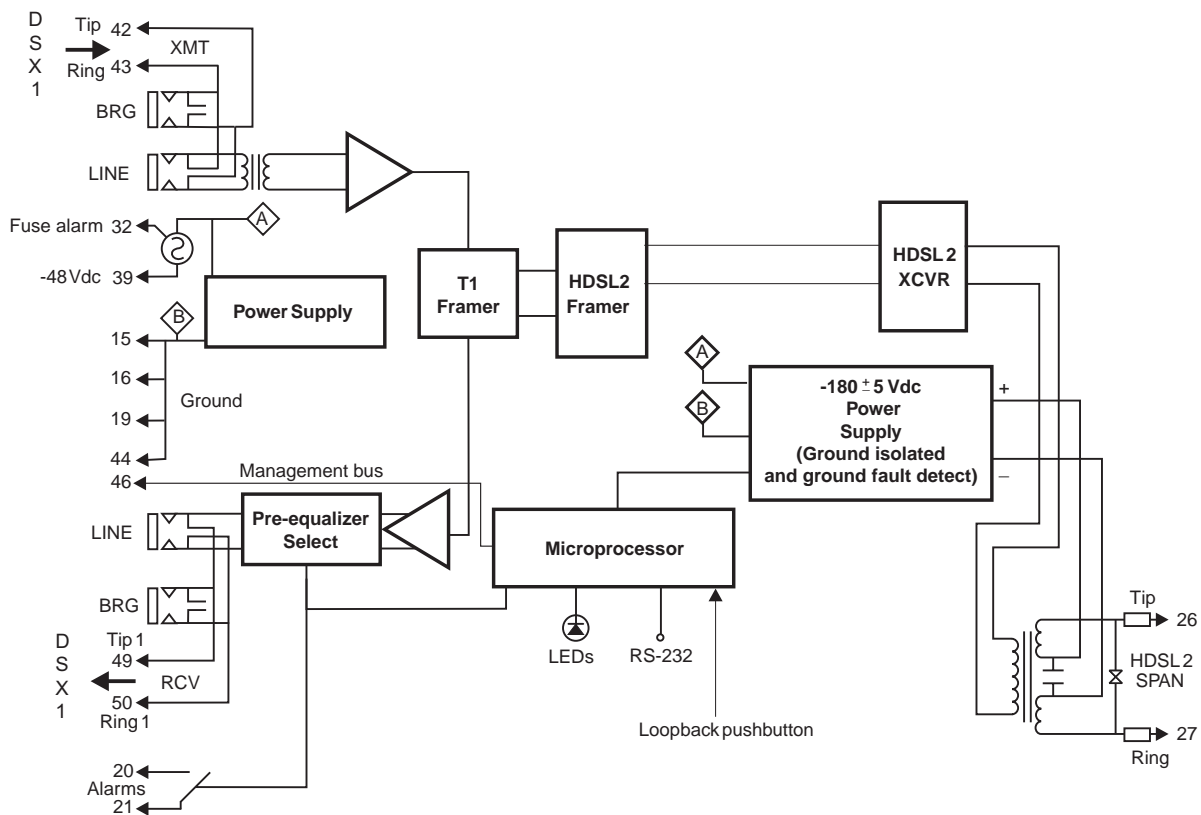

Figure 36. H2TU-C-231 List 3F Block Diagram
Figure 36 shows a block diagram of the H2TU-C-231 List 3F. The H2TU-C receives a 1.544 Mbps DSX-1 data stream from the DSX-1 digital cross-connect interface. The H2TU-C contains a DS1 frame synchronizer controlled by an 8-bit microprocessor that determines the type of framing on the DS1 stream. The H2TU-C synchronizes to the type of framing detected. The H2TU-C recognizes SuperFrame (SF), including D4 or Extended SuperFrame (ESF).